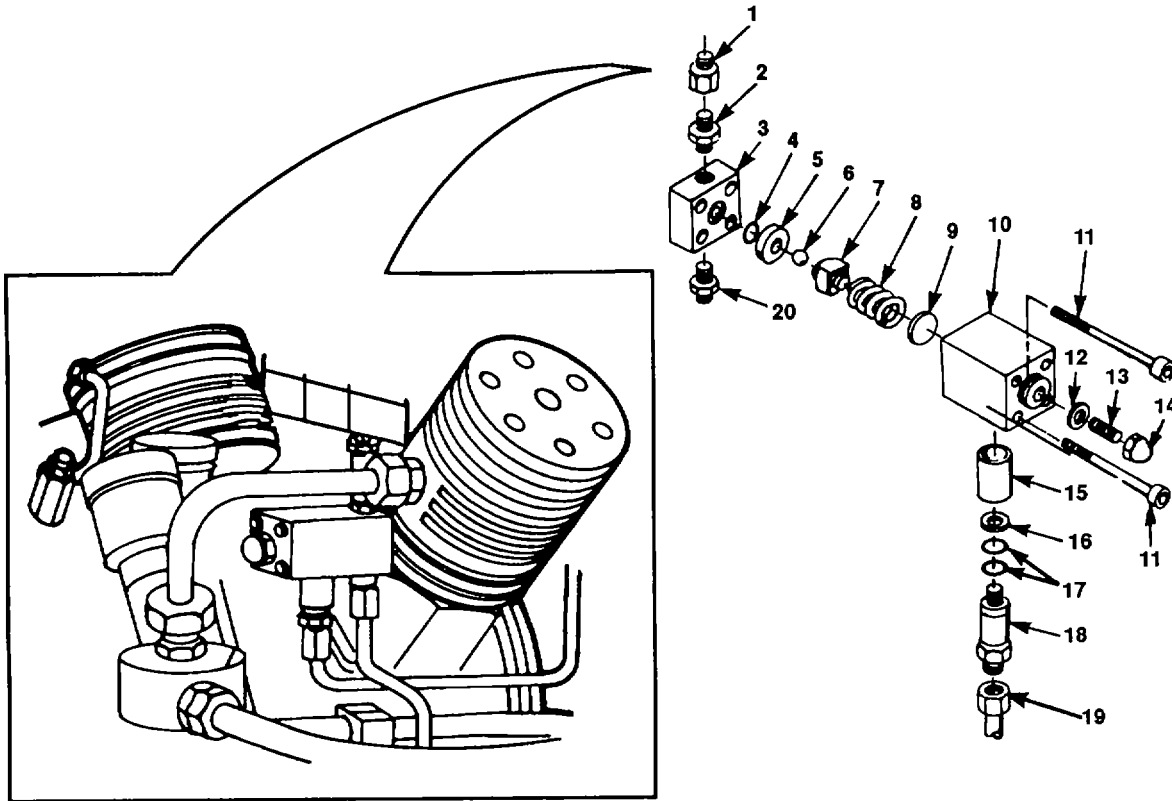

Figure 4-11. Oil Pressure Regulating Valve
5. Remove and discard gasket (7).
8. Secure oil pump to compressor. Replace washers (3) and alien screws (4).
9. Replace oil supply tube (5) to lube oil pump (6).
- b. Oil pressure regulating valve. (Refer to figure 4-11).
1. Remove pressure connections (1, 19, and 20) to oil pressure regulating valve (10).
2. Remove retaining screws (11).
4. Reinstall screws (11)